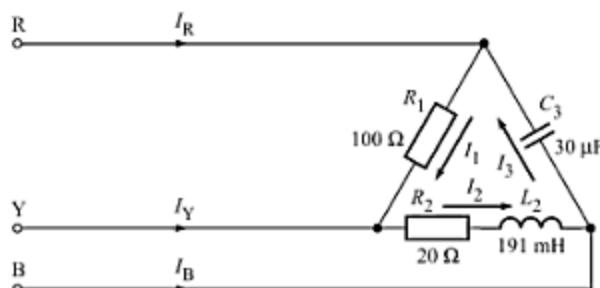

Fig. 12.15 Circuit diagram for Example 12.3.
A three-phase, 50-Hz, 415-V supply is connected to a delta-connected load comprising a resistance of  $100 \Omega$ , a resistance of  $20 \Omega$  in series with an inductance of  $191 \text{ mH}$ , and a capacitance of  $30 \mu\text{F}$ , as shown in Fig. 12.15. Calculate (a) the phase currents and (b) line currents.
- (b) Figure 12.15 shows assumed positive directions of currents. Using KCL, the current in the line conductor  $R$  is given as